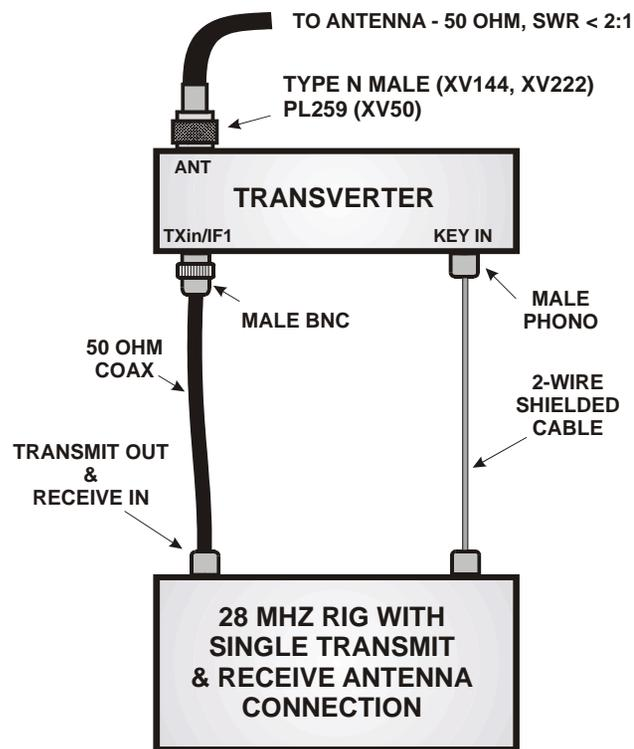

Figure 47. Connecting the Transverter to a Non-Elecrafter 28-MHz Rig with a Single Transmit and Receive RF Path.
- Connect the cables as shown in Figure 47.